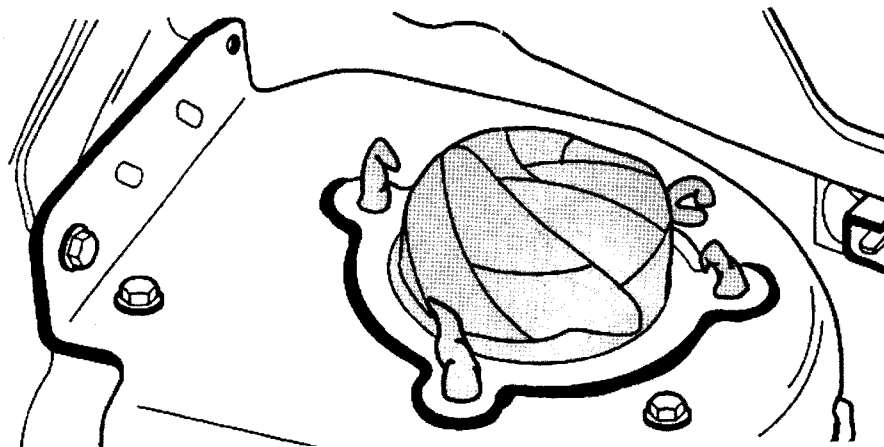

Fig. 5
16. When the new cap is in position install the self-tapping screws through the cap, into the tower (Fig. 5).